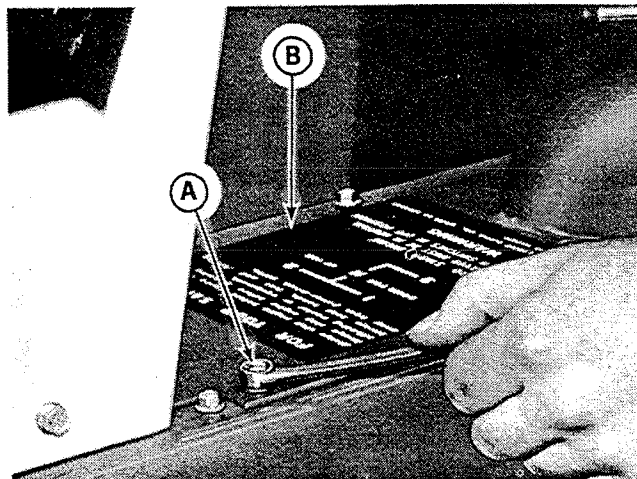

Figure 12. Cover plate over frame.
1. See figure 12. Remove the six capscrews (A) and cover plate (B) from the top of the frame in front of the tractor seat.
1. See figure 12. Remove the six screws from the frame cover and remove the cover from the tractor.